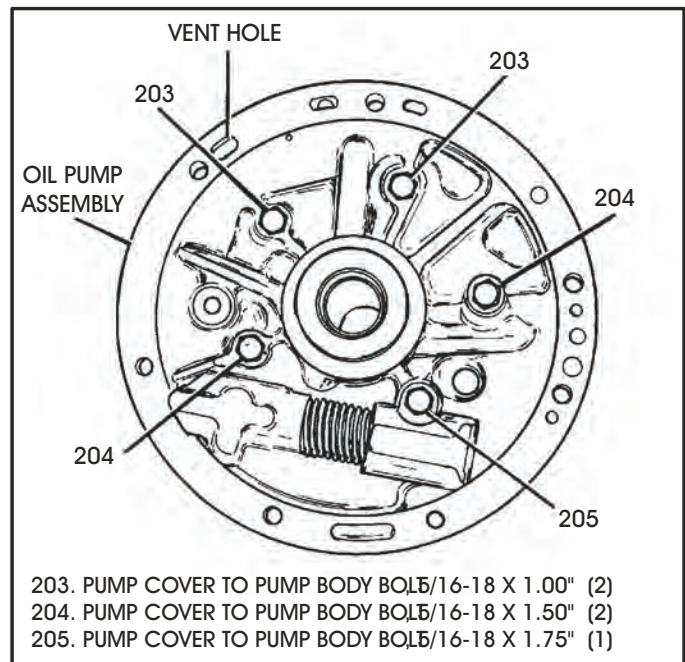

Figure 96
14. Install the pump cover onto the pump body and install the five retaining bolts in their proper locations as shown in Figure 96.